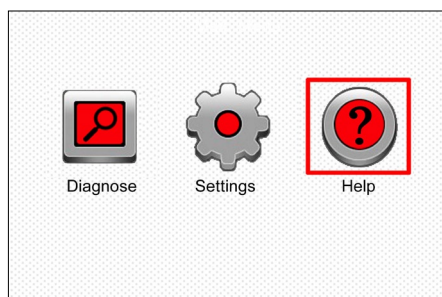

Figure 4
6. When the tool has powered up and entered the main menu screen, place cursor on the Help icon (See Figure 4) and press the **OK** button.